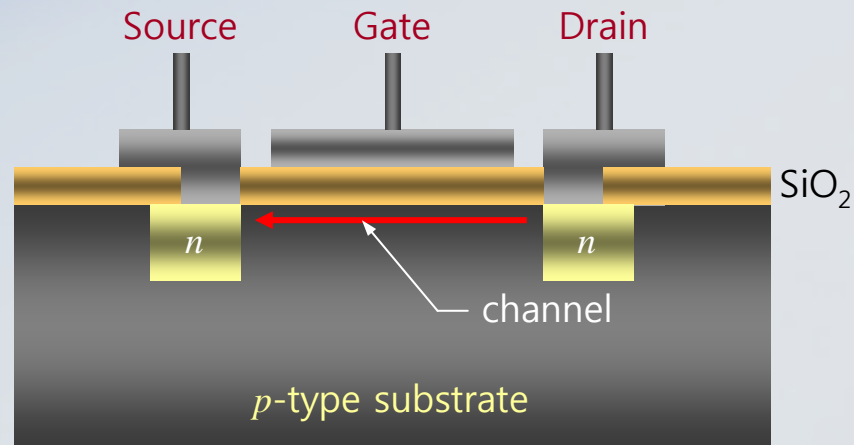

Figure 1-43. *Cross section of conventional E-MOSFET structure.*
- The conventional enhancement MOSFETs have a long thin lateral channel as shown in structural view in Figure 1-43.